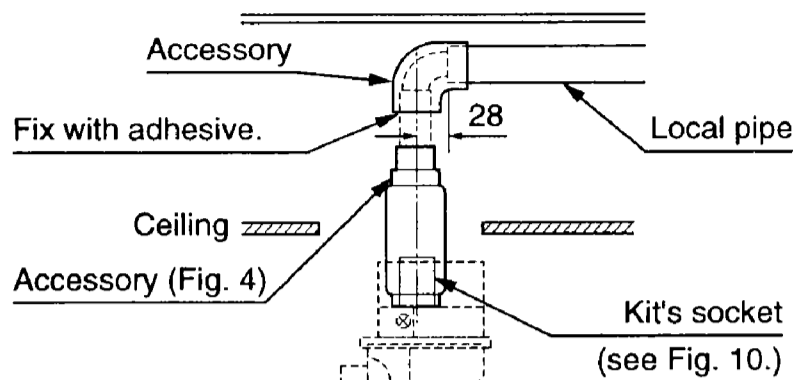

Fig. 5
- (2) Connect the pipes together with the attached elbow. (Fig. 5)